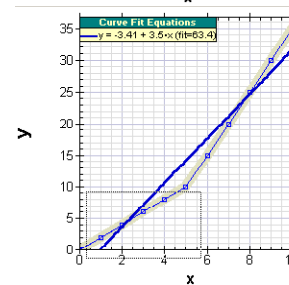
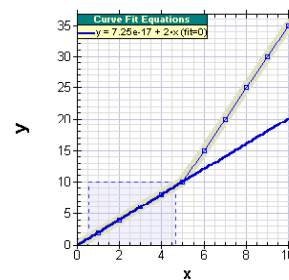

Figure 87
Figure 88
- Now hold down the shift key and the left mouse button and notice that the cursor changes to a small box. Position the cursor just below the origin and drag the cursor so that there is a rectangular box over the first section of the curve then let go of the mouse button (Figure 87). A straight line will be fitted to the points that lie within the selected range (Figure 88).